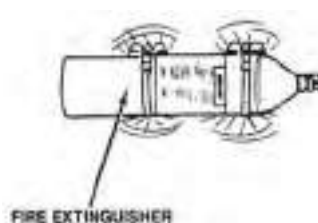

Figure 4-1 – Fire Extinguisher
7. Visually check that the fire extinguisher in the engine compartment has not been discharged. (See **Figure 4-1**.)